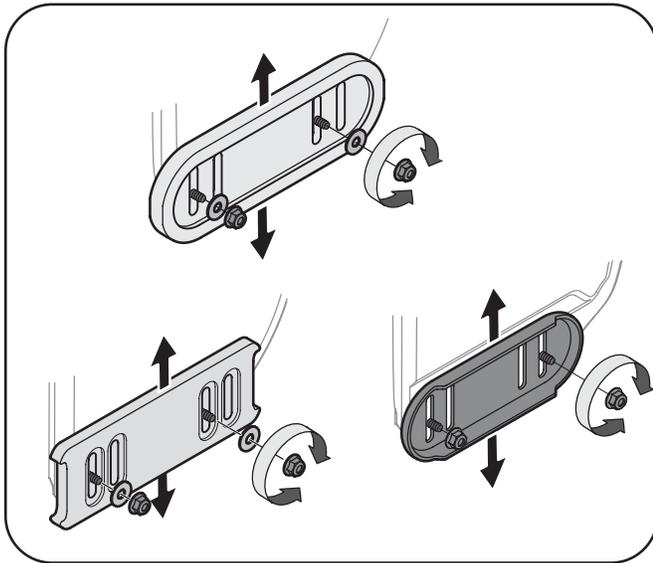

Figure 3-16
1. Loosen the four hex nuts (two on each side), washers (if equipped) and carriage bolts. Move skid shoes to desired position. See Fig. 3-16.